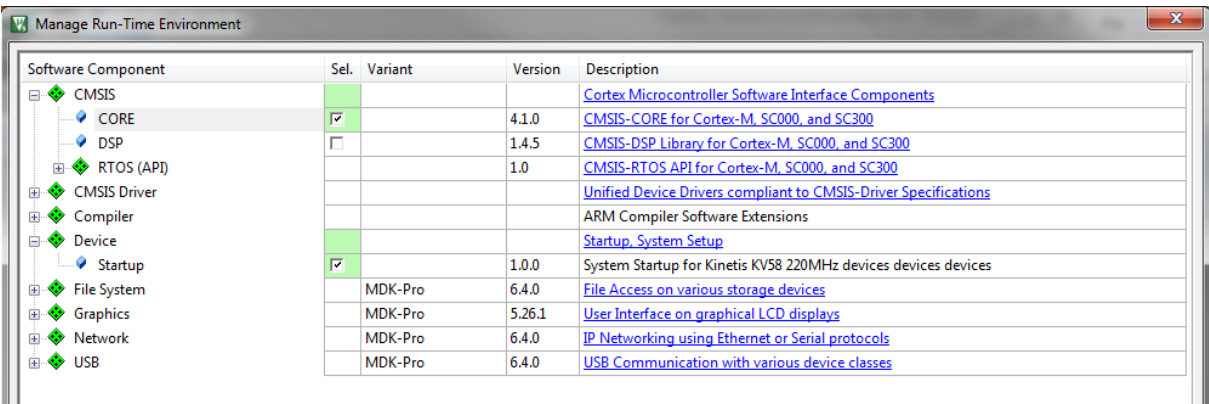

Figure 1-26. Manage Run-Time Environment dialog
- 8. In the next dialog, expand the Device node, and tick the box next to the Startup node. See Figure 1-26.